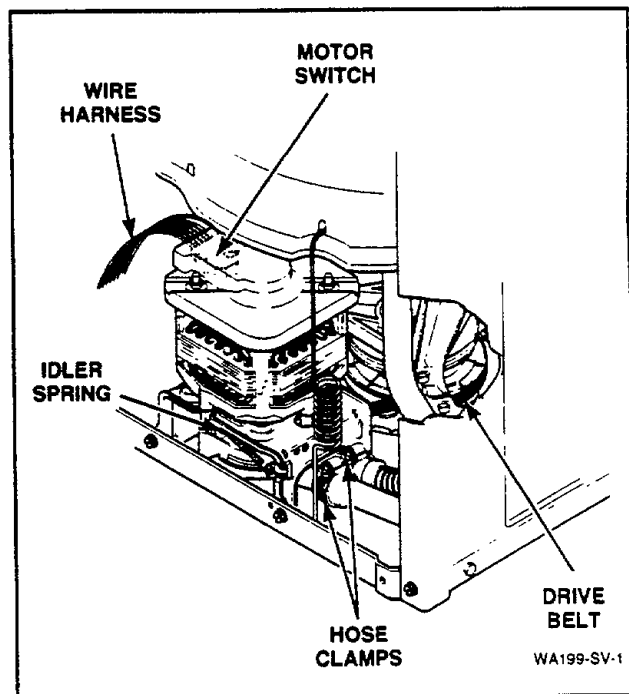

Figure 24
- Loosen hose clamps and remove hoses from pump assembly, Figure 24.
- Unhook the idler spring from the clip on front of the motor mounting bracket, Figure 24.
- Reach in and around right side of motor and run belt off right side of large drive pulley, *Figure 24*.
- Washers With Direct Drive Pump —** Loosen hose clamps and remove hoses from pump assembly, *Figure 24*.